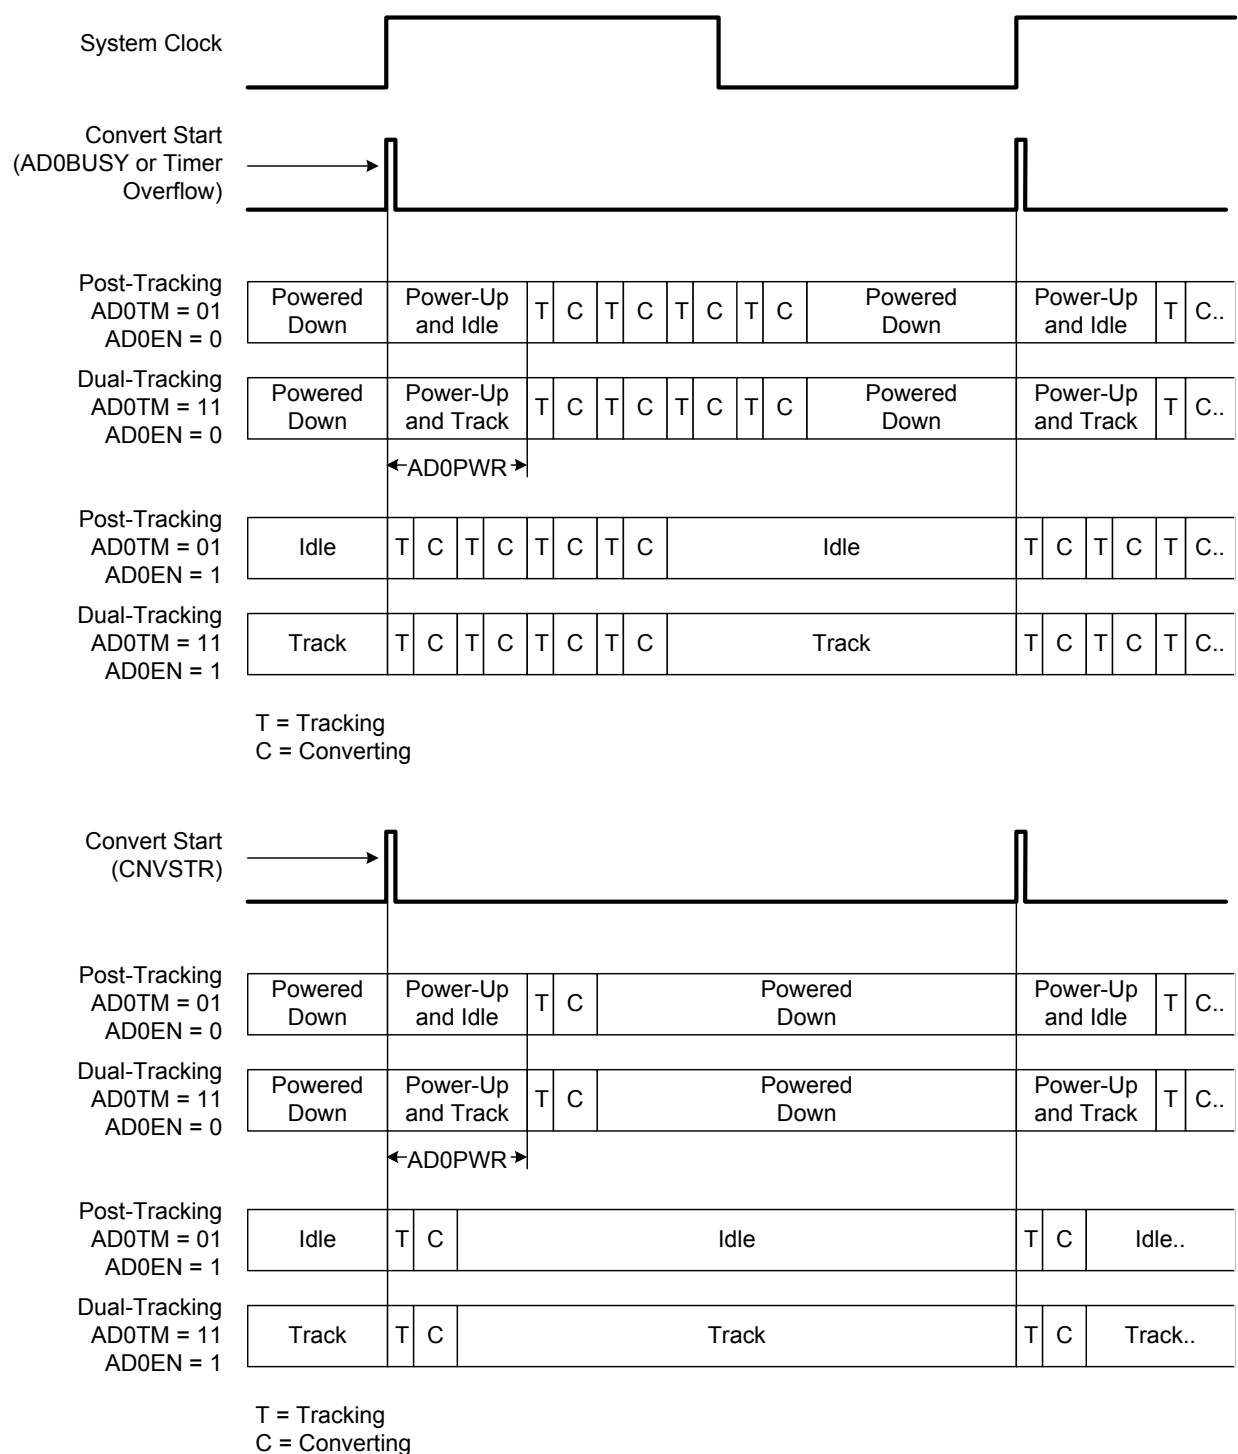

Figure 5.3. Burst Mode Tracking Example with Repeat Count Set to 4
Burst Mode is enabled by setting BURSTEN to logic 1. When in burst mode, AD0EN controls the ADC0 idle power state (i.e. the state ADC0 enters when not tracking or performing conversions). If AD0EN is set to logic 0, ADC0 is powered down after each burst. If AD0EN is set to logic 1, ADC0 remains enabled after each burst. On each convert start signal, ADC0 is awakened from its Idle Power State. If ADC0 is powered down, it will automatically power up and wait the programmable Power-Up Time controlled by the AD0PWR bits. Otherwise, ADC0 will start tracking and converting immediately. Figure 5.3 shows an example of Burst Mode Operation with a slow system clock and a repeat count of 4.
- A rising edge of external start-of-conversion (CNVSTR) will cause only one ADC conversion in Burst Mode, regardless of the value of the Repeat Count field. The end-of-conversion interrupt will occur after the number of conversions specified in Repeat Count have completed. In other words, if Repeat Count is set to 4, four pulses on CNVSTR will cause an ADC end-of-conversion interrupt. Refer to the bottom portion of Figure 5.3, “Burst Mode Tracking Example with Repeat Count Set to 4,” on page 72 for an example.